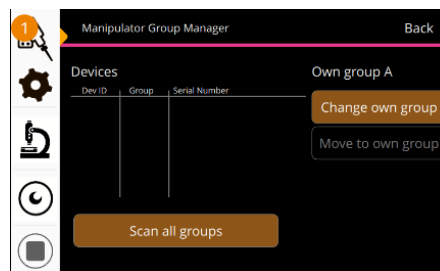

Figure 6. Device group configuration.
*Device group configuration* can be used to configure specific Sensapex products to specific local area network group to prevent unintentional control across different systems (Figure 6).